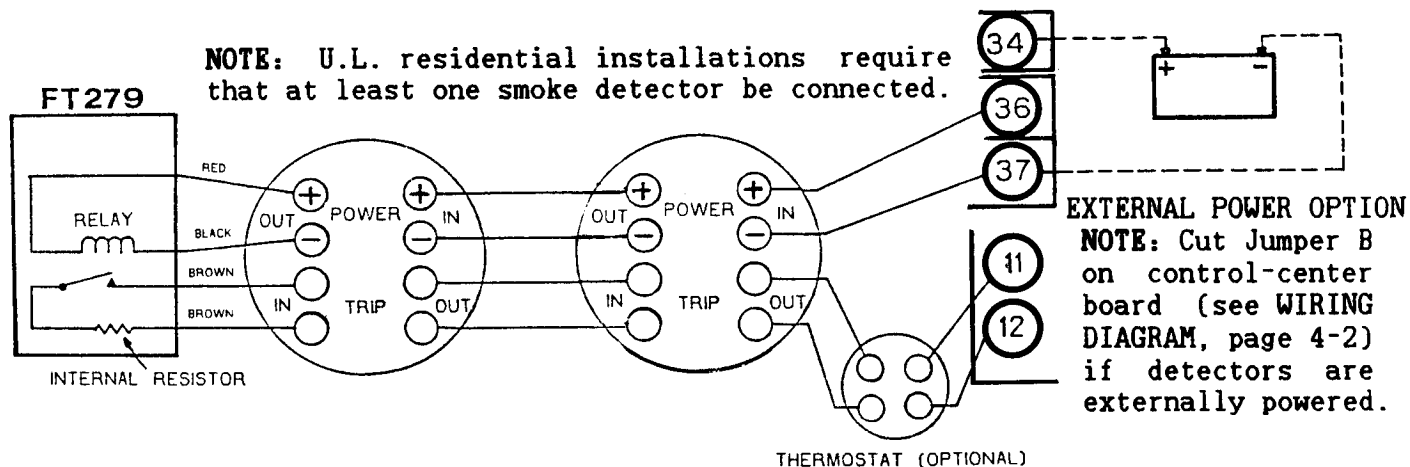
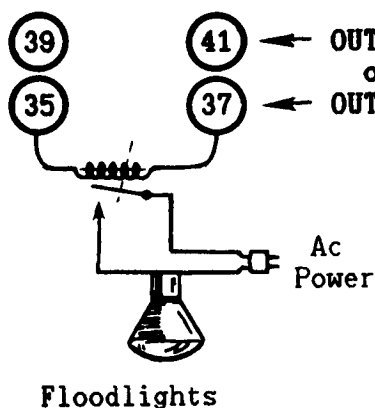
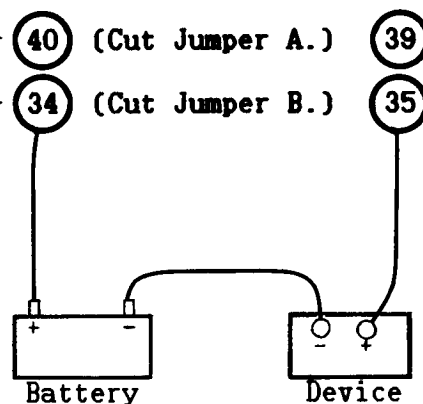

Fig. 4-3c. Powered smoke detectors reset by the control center.
Fig. 4-4a. Relay for switching house lights.
Fig. 4-4b. Externally-powered devices.
- (1) Connect detectors to Output 2 (Fig. 4-3c). If the detectors are externally powered, (a) cut Jumper B to isolate Output 2; (b) connect the power supply positive lead to Terminal 34 and the positive lead of the last device to Terminal 36. Connect the negative leads to ground (Terminal 37).
- (2) The Reset Output 2 Devices feature must be programmed (PROM location 189).
- (3) After steps (1) and (2) are completed, holding down Key 9 will momentarily remove power to the detectors, resetting them.
To activate devices when 12 volts dc is supplied through Output 1, connect the positive lead of first device to Terminal 39 and the negative lead to Terminal 41 (see Fig. 4-4a).
To isolate Output 1 for use with devices powered externally, cut Jumper A. Connect the positive lead of the first device to Terminal 39, the positive lead of the external power supply to Terminal 40, and the negative lead of the device to the power supply negative (-) terminal (see Fig. 4-4b). Devices connected in this way will be activated when the auxiliary contacts on Output 1 close.
To activate devices when 12 volts dc is supplied through Output 2, connect the positive lead of the first device to Terminal 35 and the negative lead to Terminal 37 (Fig. 4-4a). To deactivate devices (such as fire detectors) when the 12-volt dc control-center output is removed from Output 2, connect the positive lead of the first device to Terminal 36 and the negative lead to Terminal 37. (See Terminals 11-12: Fire Zone - Fig. 4-3c.)
To isolate Output 2 for use with devices powered externally, cut Jumper B. Connect the positive lead of the external power supply to Terminal 34. To activate devices when the contacts on Output 2 close, connect the positive lead of the device circuit to Terminal 35 (Fig. 4-4b). To deactivate devices when the contacts on Output 2 open, connect the positive lead of the first device to Terminal 36 (Fig. 4-3c).